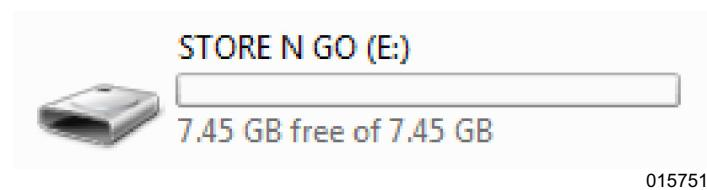

Figure A-10. Locate Flash Drive
3. See **Figure A-10**. Depending on the operating system for the computer, locate the recently attached flash drive (see the example below).